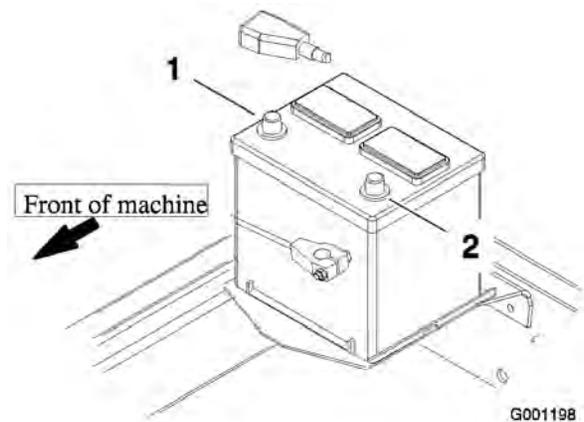

Figure 11
- First, install the positive cable (red) to the positive (+) terminal and then the negative cable (black) to the negative (-) terminal of the battery (Figure 11). Slide the rubber boot over the positive terminal to prevent a possible short from occurring.